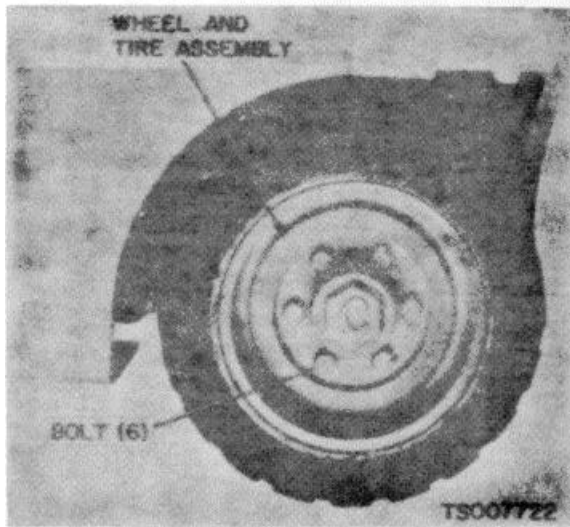

Figure 4-49. Wheel and Tire, Removal and Installation
(1) To raise the front end of the truck for wheel and tire replacement, tilt the upright back as far as possible and install a wooden block under the bottom of the uprights. Tilt the upright forward to raise the front end of the truck. To raise the rear wheels for wheel and tire replacement, use a jack or hoist. Place blocking under the frame.
(2) Remove the bolts that secure the wheel and tire assembly to the wheel hub and remove the wheel and tire as shown in figure 4-49.
c. *Installation.* Install the wheel and tire assembly on the hub as shown in figure 4-49. Torque front wheel bolts to 80-90 foot-pounds and torque rear wheel bolts to 115-125 foot-pounds.